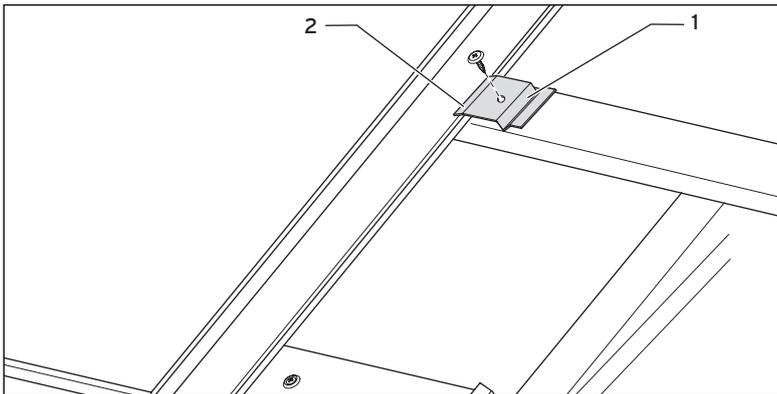

Fig. 4.14 Screwing the flat collectors
- Fix the pipe couplings with clamps (3).
- With the supplied Torx bit screw the collector laterally to the roof battens with 4 supplied clamps and bolts no. 3 (see Fig. 4.14).